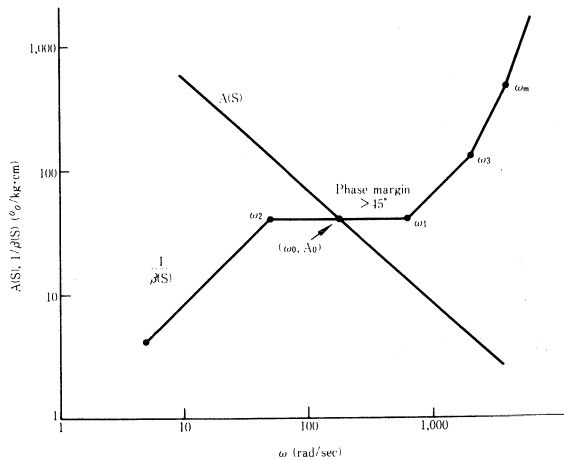

Fig. 3 Stable Relationship of $A(S)$ and $\beta(S)$
To control speed with stability, $A(S)$ and $\beta(S)$ are required to have a relationship shown in Fig. 3. That is, the angular frequency of the cross point of $A(S)$ and $\beta(S)$, ω_0 should be put between the angular frequency of an integrator, ω_1 and ω_2 .
(3) Designing R_1 and R_2
From the Fig. 3 and the equation (12),